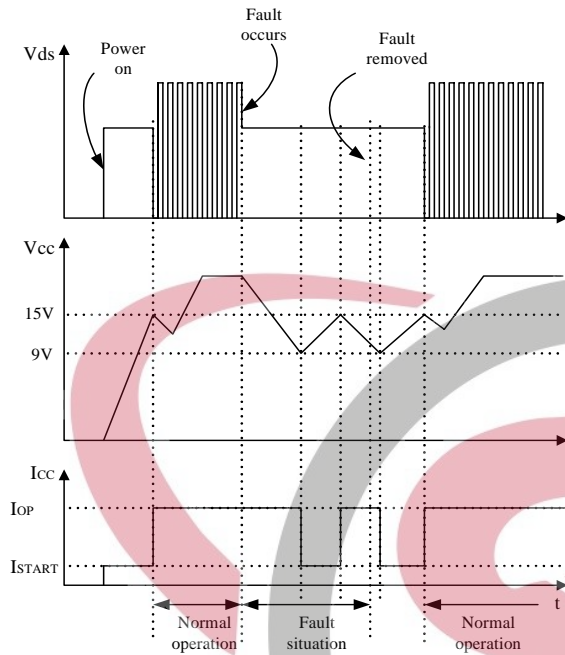

Figure 12. Auto Restart Mode Protection
**-Auto-restart mode protection:** Once the fault condition is detected, switching is terminated and the SenseFET remains off. This causes Vcc to fall. When Vcc falls to the under voltage lockout (UVLO) stop voltage of 9V, the protection is reset and the FSCQ-Series consumes only startup current (25uA). Then, the Vcc capacitor is charged up, since the current supplied through the startup resistor is larger than the current that the FPS consumes. When Vcc reaches the start voltage of 15V, the FSCQ-Series resumes its normal operation. If the fault condition is not removed, the SenseFET remains off and Vcc drops to stop voltage again. In this manner, the auto-restart can alternately enable and disable the switching of the power SenseFET until the fault condition is eliminated (see Figure 12).